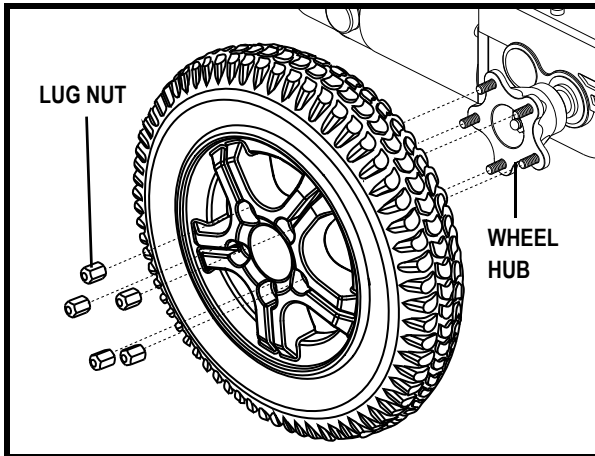

Figure 26. Fusion Drive Wheel
4. Remove the lug nuts from the wheel hub. See figure 26.